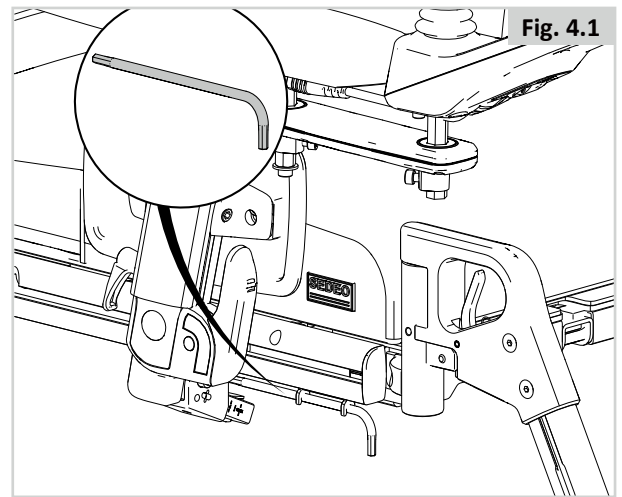

Fig. 4.1
A M5 Allen key is supplied with the seating system. This can be used by a professional for adjusting all of the seating system settings. The M5 Allen key (A) can be found on the frame at the location indicated in figure 4.1.